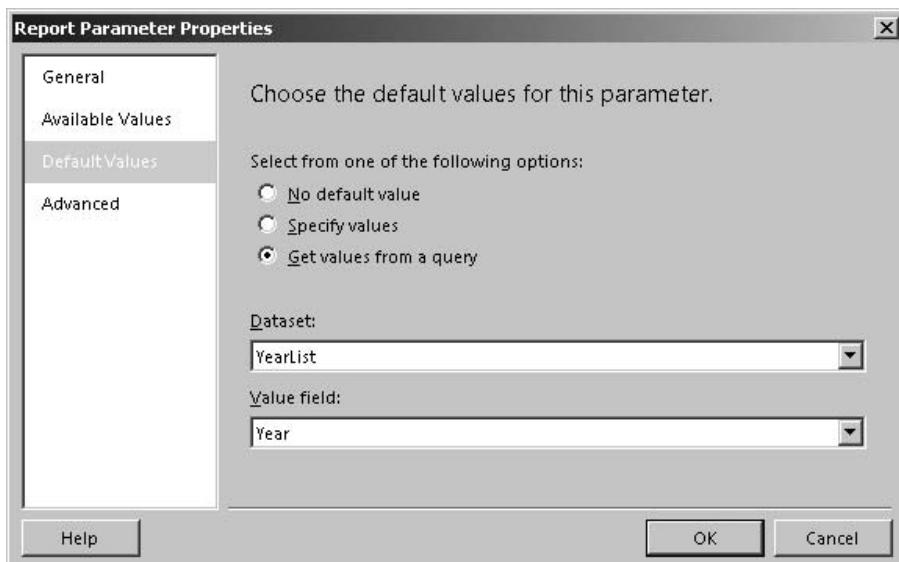

Figure 16-46 The Default Values Page of the Report Parameter Properties dialog box
32. Select Year from the Value field drop-down list. This page of the Report Parameter Properties dialog box appears as shown in Figure 16-46.